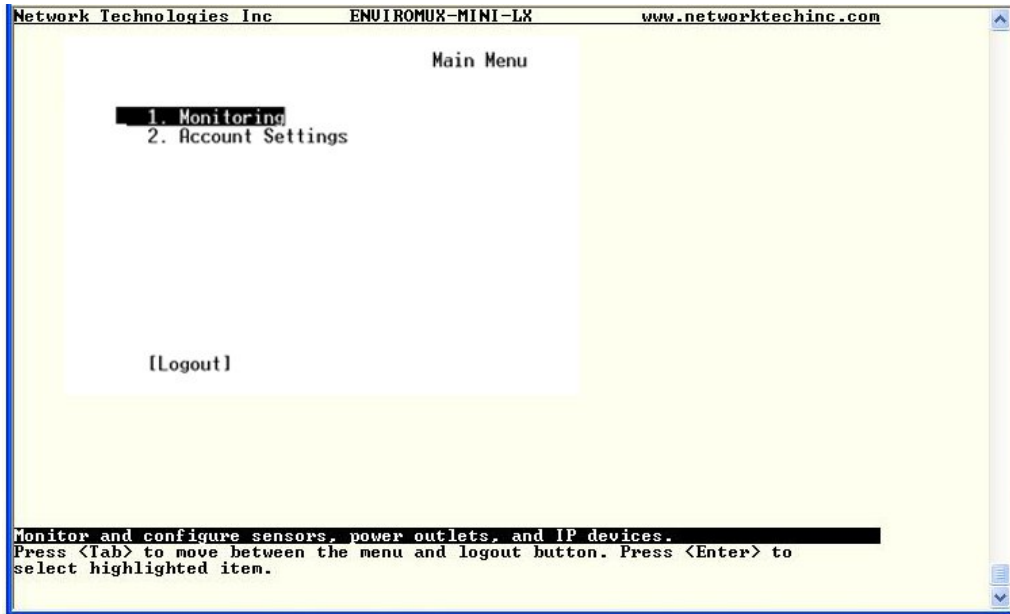

Figure 68- Text Menu- User Main Menu
- To move from menu list to action key (such as “Logout” in Figure 68 above), press <Tab>.